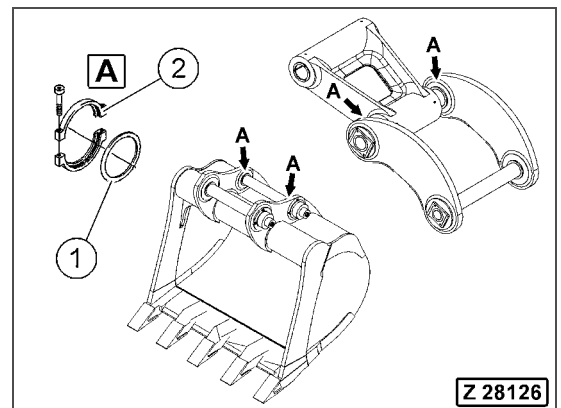

Fig. 5-57
2. Slip the seals (Fig. 5-57, Pos. 1) to get affixed with seal fixing rings (Fig. 5-57, Pos. 2) onto the flanges of the bushes installed in the bucket and the steering rods. Use new seals.